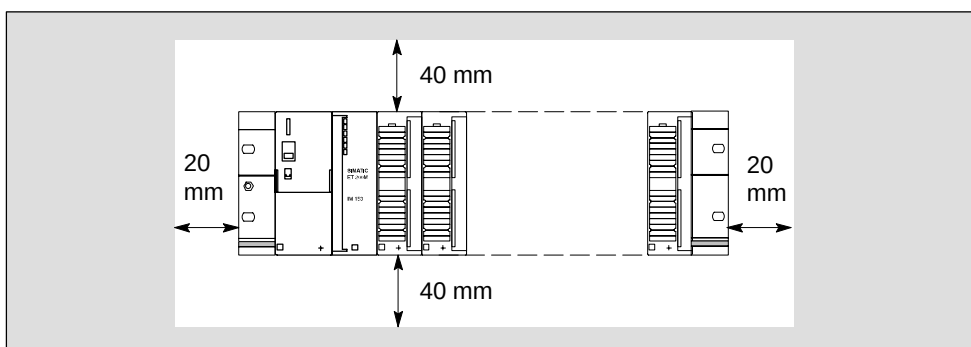

Figure 3-2 Clearance Measurements for an ET 200M Installation on a Mounting Rack
Figure 3-2 shows you the clearance measurements to nearby cable ducts, apparatus, cabinet walls etc. for an ET 200M installation.
1. Choose a position for the rail that leaves enough room to install it properly and enough space to cope with the temperature rise of the modules (leave at least 40 mm free above and below the rail; see Figure 3-2 on page 3-3)